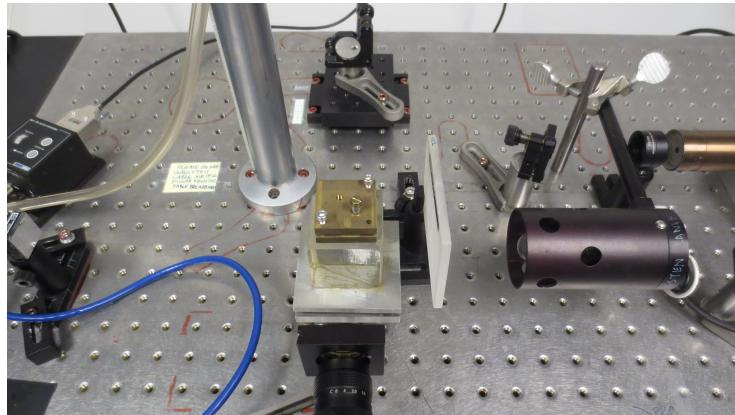

Figure 2.7: White light source instead of the sodium lamp.
- (B) Now replace the sodium lamp with the white light source, as shown in Figure 2.7. Note that the sodium lamp will be hot, so grab it only by the post. At first, you probably won’t see any fringes, despite being close to